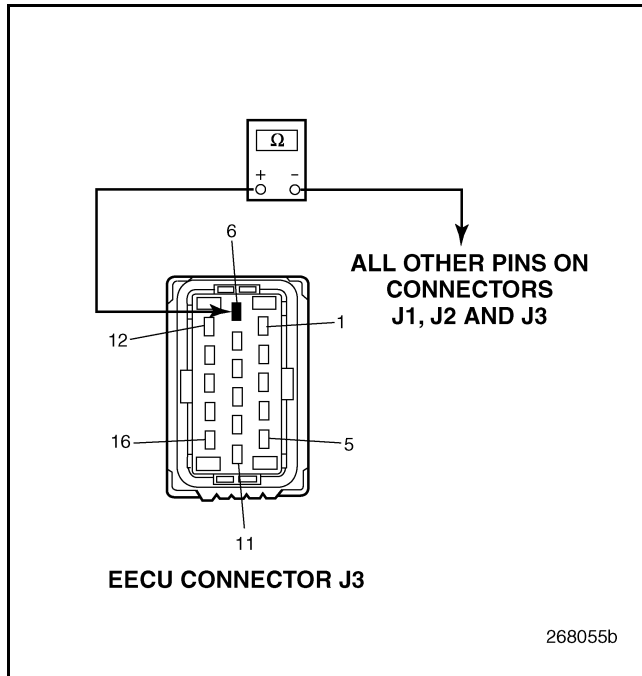

Figure 769
4. Check for continuity between the EECU harness connector J3 pin 6 all other pins on EECU connectors J1, J2 and J3 (see Figure 769).